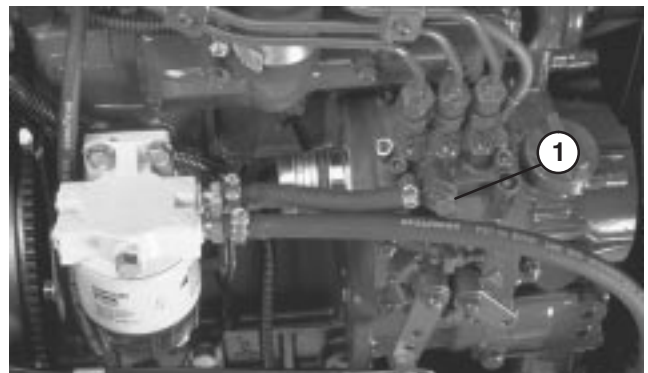

Figure 40
BLEEDING FUEL SYSTEM (Fig. 40)
3. Open the air bleed screw on the fuel injection pump (Fig. 40).